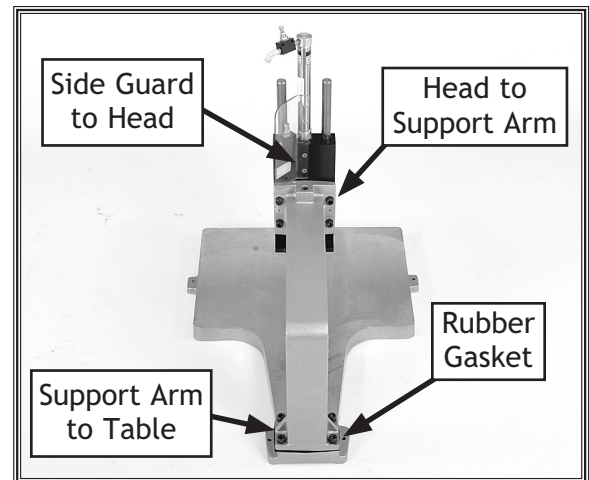

Figure 3. Initial assembly of support arm, head assembly, and side guard.
1. Using four M10-1.5 x 45 cap screws and lock washers, attach the support arm to the table with the rubber gasket in the middle (see **Figure 3**).
2. Mount the head assembly to the support arm with four M10-1.5 x 25 cap screws and lock washers (see **Figure 3**), and tighten evenly.
3. Attach the side guard to the head assembly with two flat head screws (see **Figure 3**).